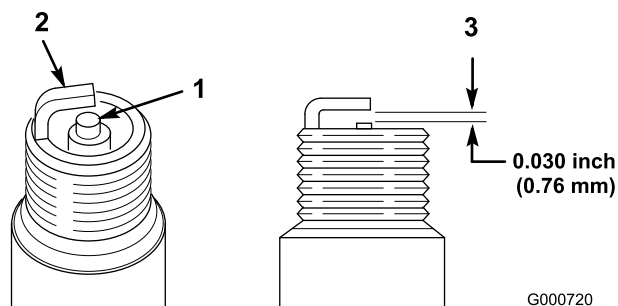

Figure 30
1. Look at the center of the spark plug (Figure 30). If you see light brown or gray on the insulator, the engine is operating properly. A black coating on the insulator usually means the air cleaner is dirty.
2. Check the gap between the center and side electrodes (Figure 30).
3. Bend the side electrode (Figure 30) if the gap is not correct.